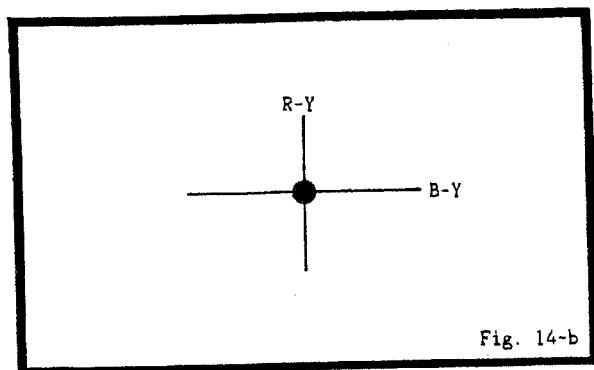

Fig. 14-b
3. Connect the DC supplier to pin ⑫ IC8007.
4. Adjust VR7003 for the waveform indicated in Fig. 14-a.
5. Connect the vectorscope to pin ④ CP4204.
6. Adjust VR7002 and VR7003 so that lighting point is collected in the center of the vectorscope. (Refer to Fig. 14-b)